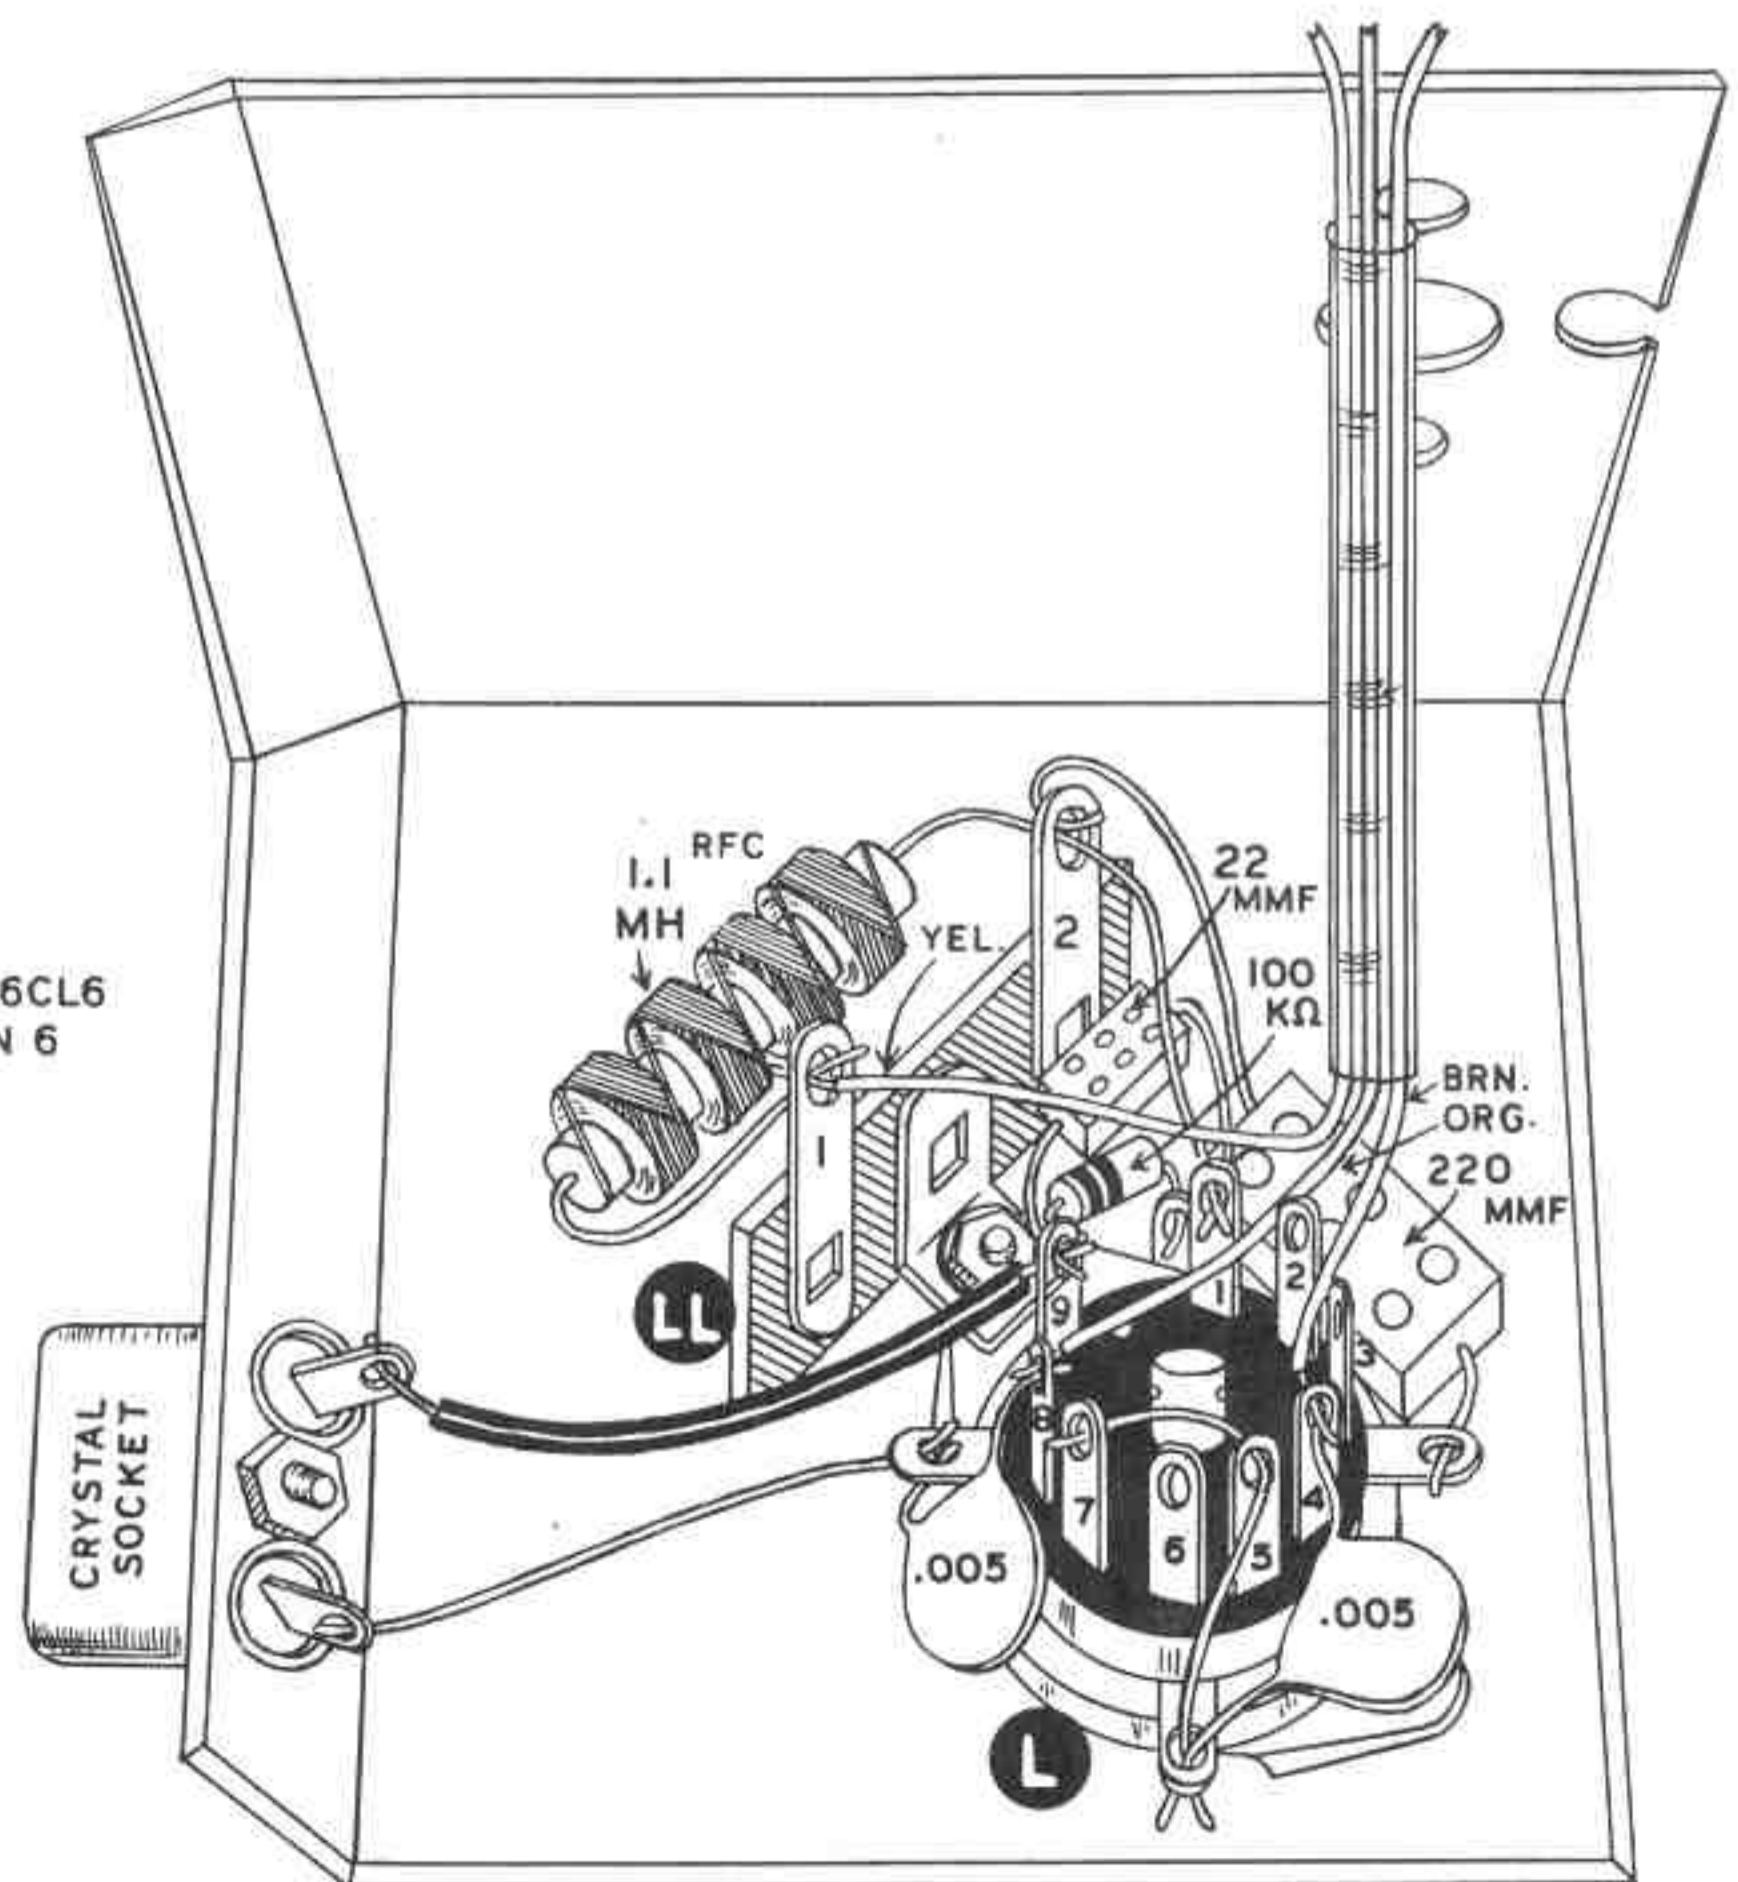

Figure 10
- ( ) Mount the crystal socket on the "L" bracket as shown in Figure 10. Use the one 4 - 40 x 1/2" machine screw and allow the flat sides of the 4 - 40 nut to recess between the socket pillars. A lockwasher is not used. Tighten with a small screwdriver. NOTE: If none of the remaining small nuts fit the 4 - 40 x 1/2" screw, then the 4 - 40 nut must have been used on one of the 3 - 48 screws to mount the coax socket.
- (✓) With the capacitor lying flat, bend both leads to a right angle edge-wise. Mount on top of the 100 K resistor and connect to pin 1 (NS) and pin 9 (NS). Refer to Figure 10.
- (✓) Thread the 1 1/4" lead through LL2 (NS) and continue to pin 1 on the 6CL6 socket L (S).
- (✓) Connect the 7/8" lead to LL1 (NS).
- (✓) Position the capacitor flat against the bracket in the position shown in Figure 10. Connect the 5/8" lead to ground lug 2 (S).
- (✓) The 1" lead is formed up and through LL2 (S). See Figure 10.
- (✓) Connect one end to ground lug #4 (NS).
- (✓) Connect the other end to the outside crystal socket terminal (S).
- (✓) Connect one end to the #4 ground lug (S).
- (✓) Connect the other end to pin 8 on the 6CL6 socket (NS).
- (↪) Connect one end to pin 9 (S).
- (↪) Connect the other end to the crystal socket connection nearest to the RFC (S). See Figure 10.
- (↪) Connect one end to the #3 ground lug (S).
- (↪) Connect the other end to pin 4 (NS).
- (↪) Connect one end to tie point LL1 (S). Leave the other end free.
- (↪) Connect one end to pin 8 (S). Leave the other end free.
- (↪) Connect one end to pin 4 (S). Leave the other end free.